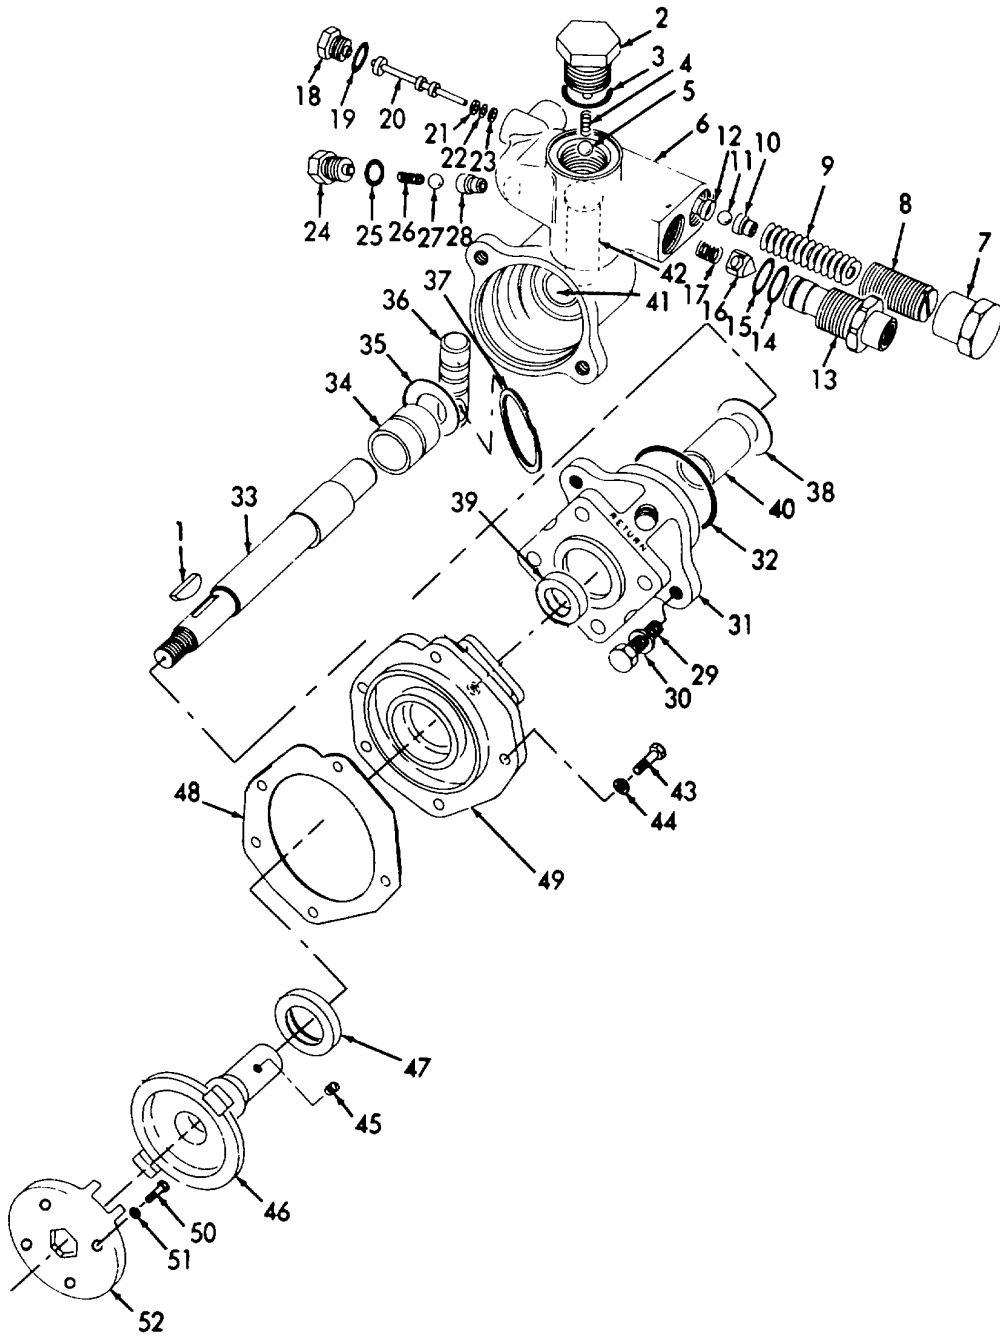

Figure 3-10. Hydraulic Pump, Disassembly/Reassembly.
**3-12. HYDRAULIC PUMP -Continued.**a. Disassembly. (Refer to figure 3-10).
- (1) Remove key (1) from shaft (33).
- (2) Remove plug (2), O-ring (3), spring (4), and ball (5) from housing (6).
- (3) Remove cap (7), adjusting screw (8), spring (9), valve seat (10), ball (11), and valve seat (12) from housing (6).
- (4) Remove adapter (13), O-ring (14), O-ring (15), inlet valve (16), and spring (17) from housing (6).
- (5) Remove plug (18) and O-ring (19) from housing (6). Using a ¼ inch diameter brass rod inserted in opposite side, push plunger valve (20) from housing (6). Remove and discard back-up ring (21), O-ring (22), and back-up ring (23) from plunger valve (20).
- (6) Remove plug (24), O-ring (25), spring (26), ball (27), and valve seat (28) from housing (6).
- (7) Remove two screws (29), two lockwashers (30), and mounting flange assembly (31) from housing (6). Remove and discard O-ring (32).
- (8) Remove shaft (33), bearing (34), and washer (35). Remove piston (36) and ring (37) as an assembly.
- (9) Remove washer (38). Press oil seal (39) and bearing (40) front mounting flange assembly (31) using an arbor press.
- (1) Refer to figure 3-10 and position flange (52) on camshaft gear and secure with four lockwashers (51) and four screws (50).
- (2) Install seal (47) and shaft (46) in housing (49). Install setscrew (45). Position assembled housing (49) and gasket (48) on the engine and secure with four lockwashers (44) and four screws (43).
- (3) Press bearing (41), into housing (6), using an arbor press.
- (4) Place mounting flange assembly on a pair of parallel blocks, on an arbor press with bearing side up. Apply a light coat of grease (item 11, Appendix C) on the outside diameter of the bearing. Making certain that the bearing (40) is squarely started in the bore, proceed to press the bearing into the bore until it is flush with the mounting flange assembly surface.
- (5) Turn the flange over. Start the oil seal (39) into the bore making certain that it enters squarely. Note should be taken at this time that the garter spring in the seal is facing in the direction of the bearing. Press the seal into the bore to a depth of  $\frac{1}{4}$  inch below the surface of the flange.
- (6) Install two retaining rings (37) on piston (36). Be sure retaining rings do not overlap each other. Coat piston (36) with oil (item 8, Appendix C) and slide piston (36) with retaining rings into sleeve (42).